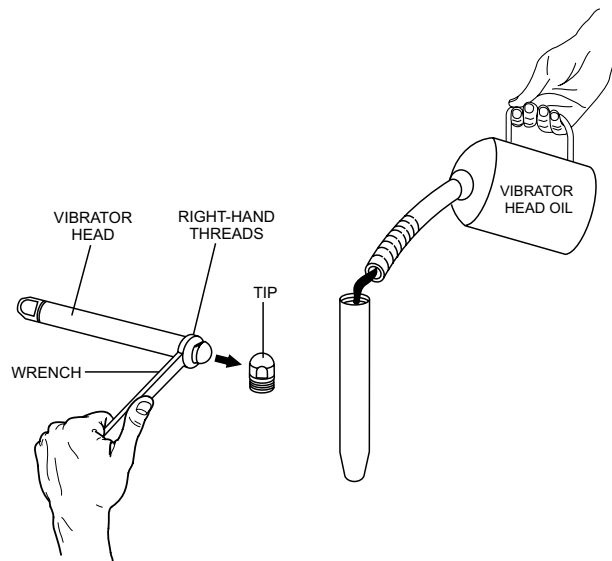

Figure 9. Adding Oil (Vibrator Head)
1. Using a wrench, remove vibrator tip (Figure 9) from vibrator head body. Have a cloth handy to catch any spilled oil.